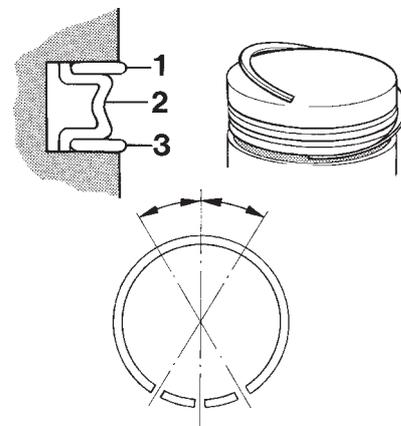

Fig. 52. Fitting of oil ring (MD2040)
MD2040: Place the expander (2, Fig. 52 on page 40) to the oil scraper rings in the piston ring groove. Check that the ends on the expander do not overlap each other. Fit the top scraper ring (1) over the the expander. Put in one end of the ring in the groove and hold it in place with your thumb. Push the ring in position with your other thumb.
Check that the scraper rings run easily in both directions and that the ends on the expander and the rings are in the correct position (Fig. 52).
MD2040: Check that the ends on the expander and scraper rings are in the correct position (Fig. 52).